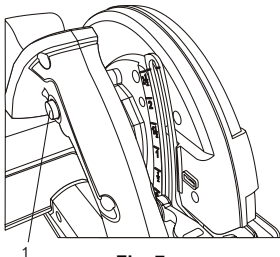

Fig. 7
The lock-off switch (1) is a safety device designed to reduce the possibility of accidentally starting the saw (Fig. 7). This switch must be depressed before the trigger switch can be depressed.
To turn the saw ON, press the lock-off switch with your thumb (Fig. 7).